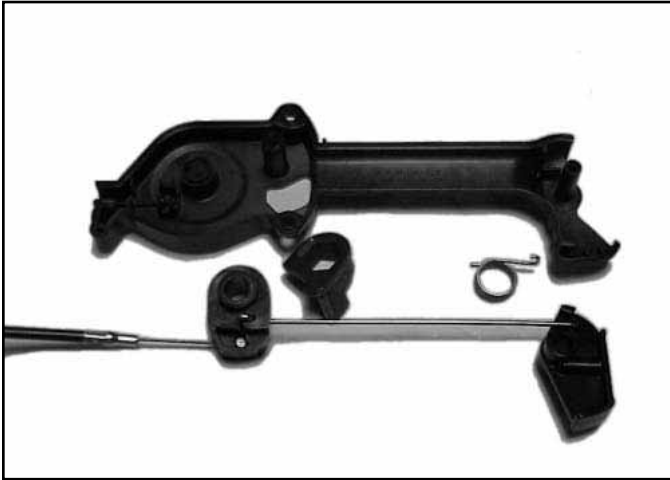

Fig 023
5. Lift the metal latch pawl off the hex on the cable lever. Lift out the latch trigger and spring. Note the orientation of the pawl to the lever for reassembly (Fig. 023).